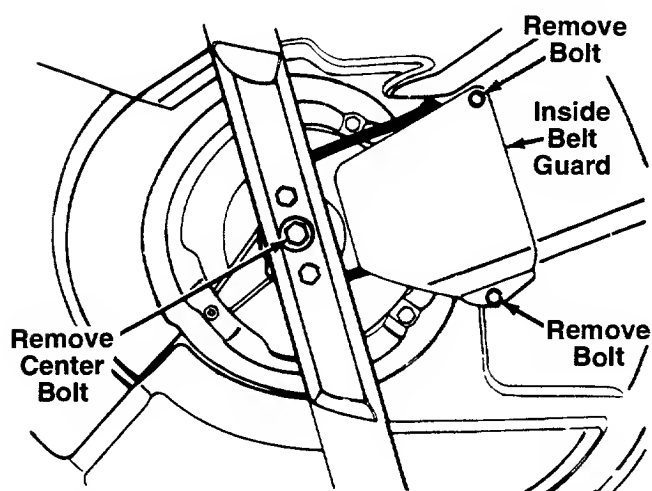

FIGURE 17.
6. Remove the inside belt guard by removing two self-tapping screws. A 3/8" wrench is required. See figure 17.